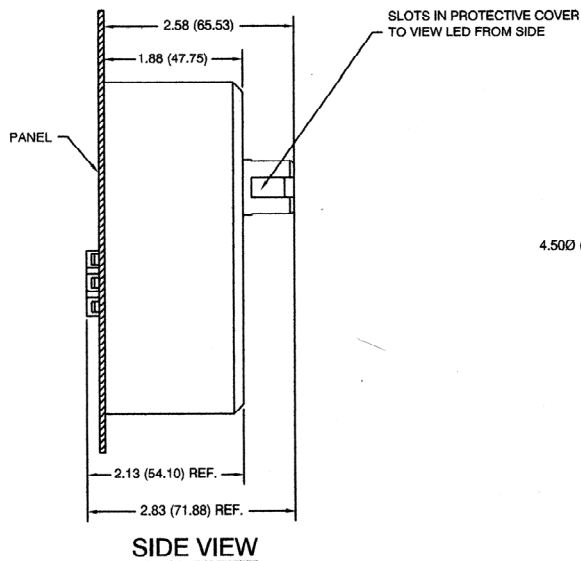

Figure 1
- CYCLOPS Y – Purge Indicator mounts directly to enclosure. (Refer to Figures 1, 2, 3, & 4)